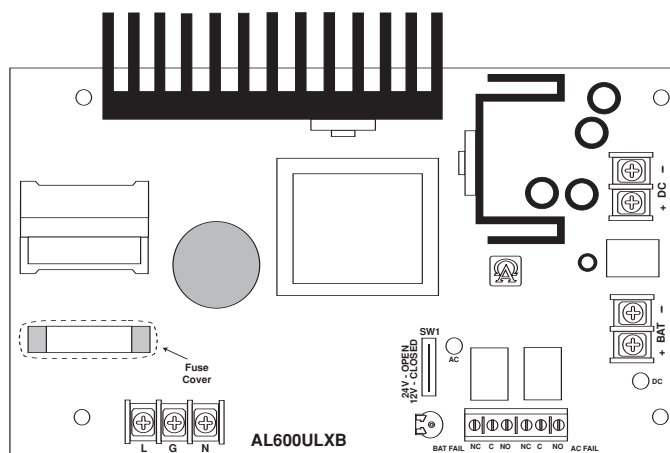

Fig. 2
- Set the AL600ULXB to the desired DC output voltage by setting SW1 (*Fig. 2*) to the appropriate position (*refer to Power Supply Voltage Output Selections chart*).
- Connect AC power (115VAC 60Hz) to terminals marked [L, G, N] (*Fig. 2*). Use 18 AWG or larger for all power connections (Battery, DC output, AC input).
- Connect devices to be powered to terminals marked [+DC -] (*Fig. 2*).
6. For Access Control applications, batteries are optional. When batteries are not used a loss of AC will result in the loss of output voltage. When the use of stand-by batteries is desired, they must be lead acid or gel type. Connect battery to terminals marked [+ BAT -] (Fig. 2). Use two (2) 12VDC batteries connected in series for 24VDC operation (battery leads included).
7. Connect appropriate signaling notification devices to AC FAIL & BAT FAIL (Fig. 2) supervisory relay outputs. **Note:** When used in fire alarm, burglar alarm or access control applications, “AC Fail” relay must be used to provide a visual indication of AC power on.